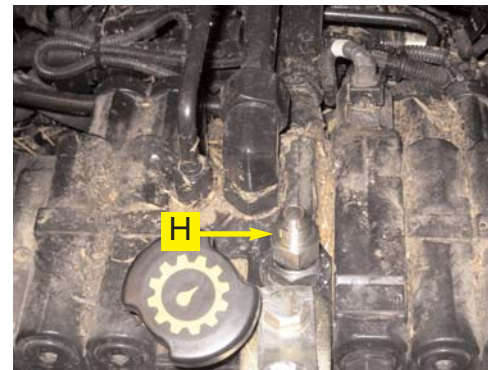

Figure 3c. Installed pressure fitting.
- b. Remove the pressure plug from the top of the valve stack and install the adapter fitting (**H**). (Figure 3c.)